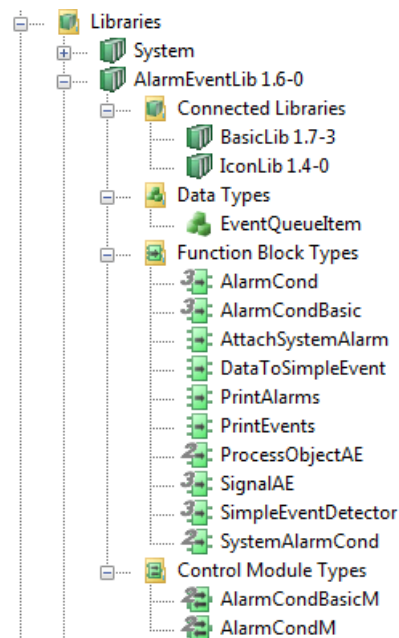

Figure 7. Contents of a library in the Libraries folder
A library in the Libraries folder in Project Explorer may contain the following (see Figure 7):
- Project constants (not shown in Figure 7).